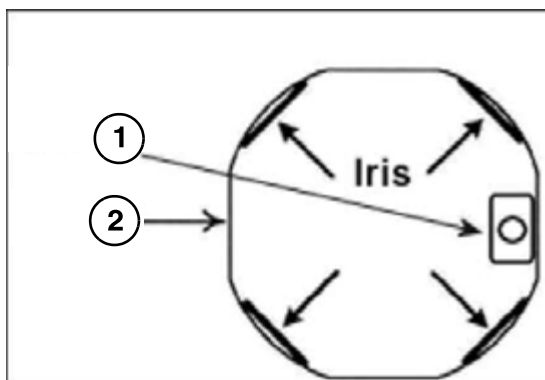

Fig. 22:
- Place the dose measuring chamber on the tabletop (without table mat) as shown in (Fig. 22 / p. 36).